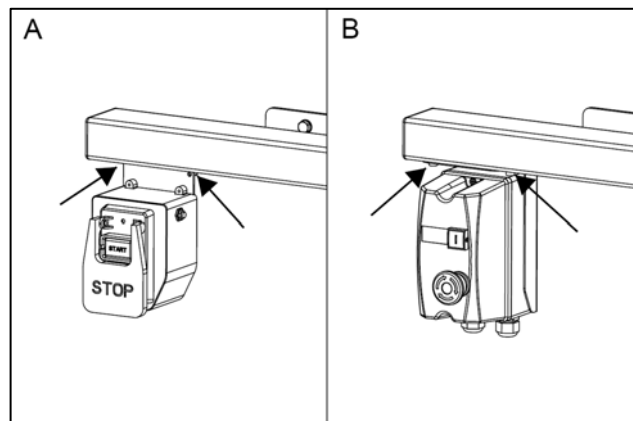

Fig. 14
5.4.6 Install the switch (Fig.14)
North America area: Fig.14 (A).
European area: Fig.14 (B).
Asian area: Fig.14(B).